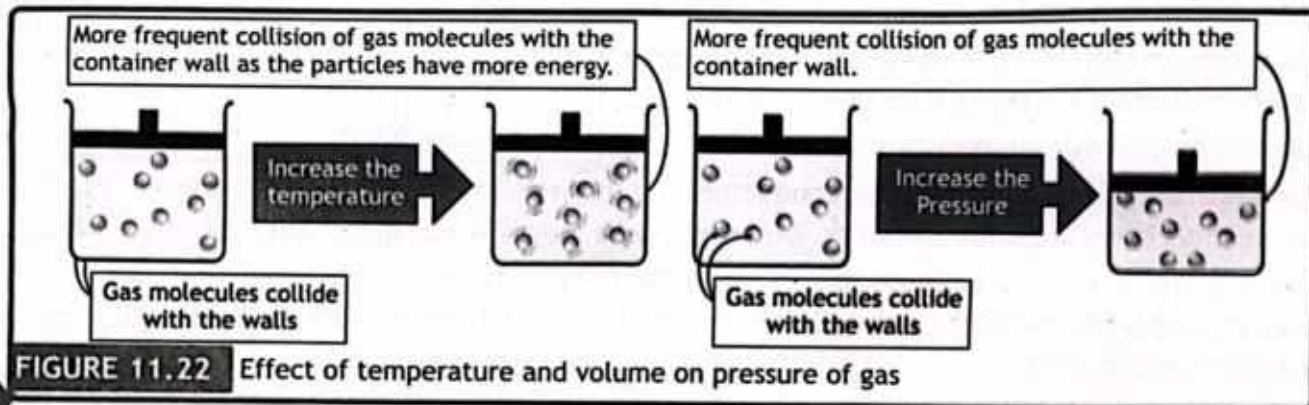

FIGURE 11.22 Effect of temperature and volume on pressure of gas
B. Effect of volume: Pressure of a gas is inversely proportional to its volume if its temperature is kept constant (Boyle's law). If the volume of the container is reduced while keeping the number of particles constant, particles have less space to move around. This increases the number of collisions of its particles with the walls, which results in increase in pressure. Conversely, If the volume is increased, particles have more space and collide with the walls less frequently, which decreases the pressure as shown in figure 11.22.
C. Effect of amount of gas (number of particles): By increasing the number of particles of the gas in a fixed volume increases the number of collisions of gas molecules with the walls of the container and hence, it increases the pressure of the gas in the container. By decreasing the number of particles of the gas in the container, its pressure will decrease as shown in figure 11.22.